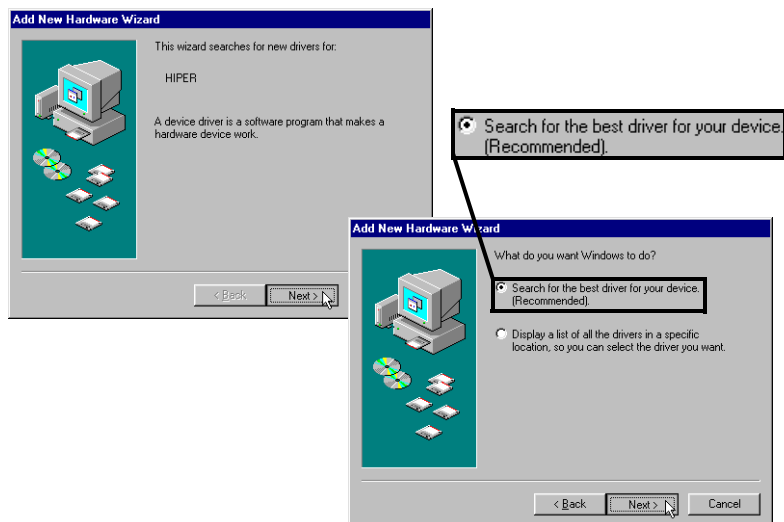

Figure C-1. Windows 98 SE – Add New Hardware Wizard and Select the Driver Search Method
2. Select *Search for the best driver for your device. (Recommended)*. and then click **Next** (Figure C-1 on page C-2).